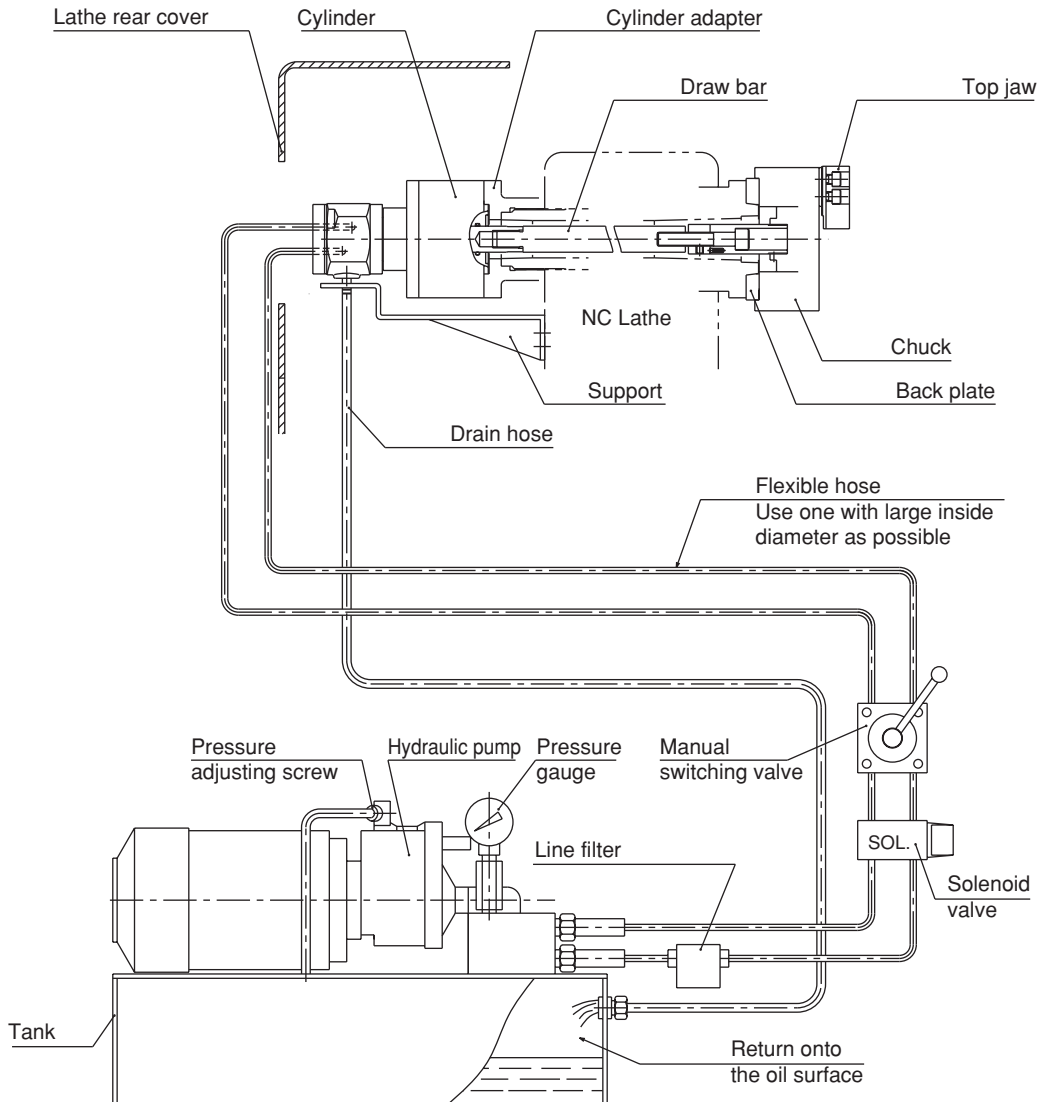

Fig. 8
- The end of the hose is physically above the oil level. (Refer to Fig.8)
- Arrange the drain hose to come back to the above of oil tank surface of the hydraulic unit. (Fig.8) If the drain hose is connected to T-port such as valve block, etc., the oil seal of cylinder will damage because backpressure is applied to the hose.